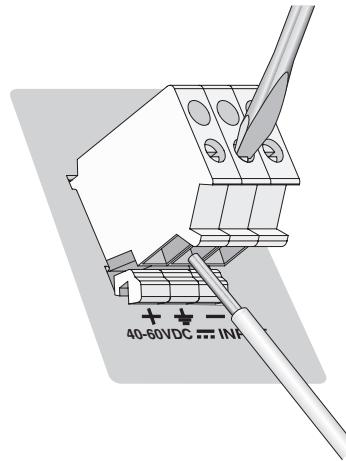

Figure 54 Inserting Wires into DC Terminal Block
- Connect the power supply ground wire to the terminal marked with the ground symbol. Inserting the wire into the terminal and tightening the connection with a flathead screwdriver. See Figure 54.